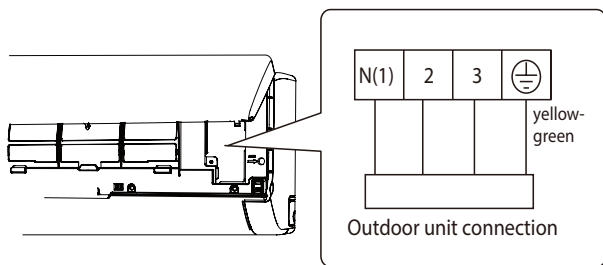

Fig.13
3. Remove the wire clip; connect the power connection wire to the wiring terminal; tighten the screw and then fix the power connection wire with wire clip.(As show in Fig.13)